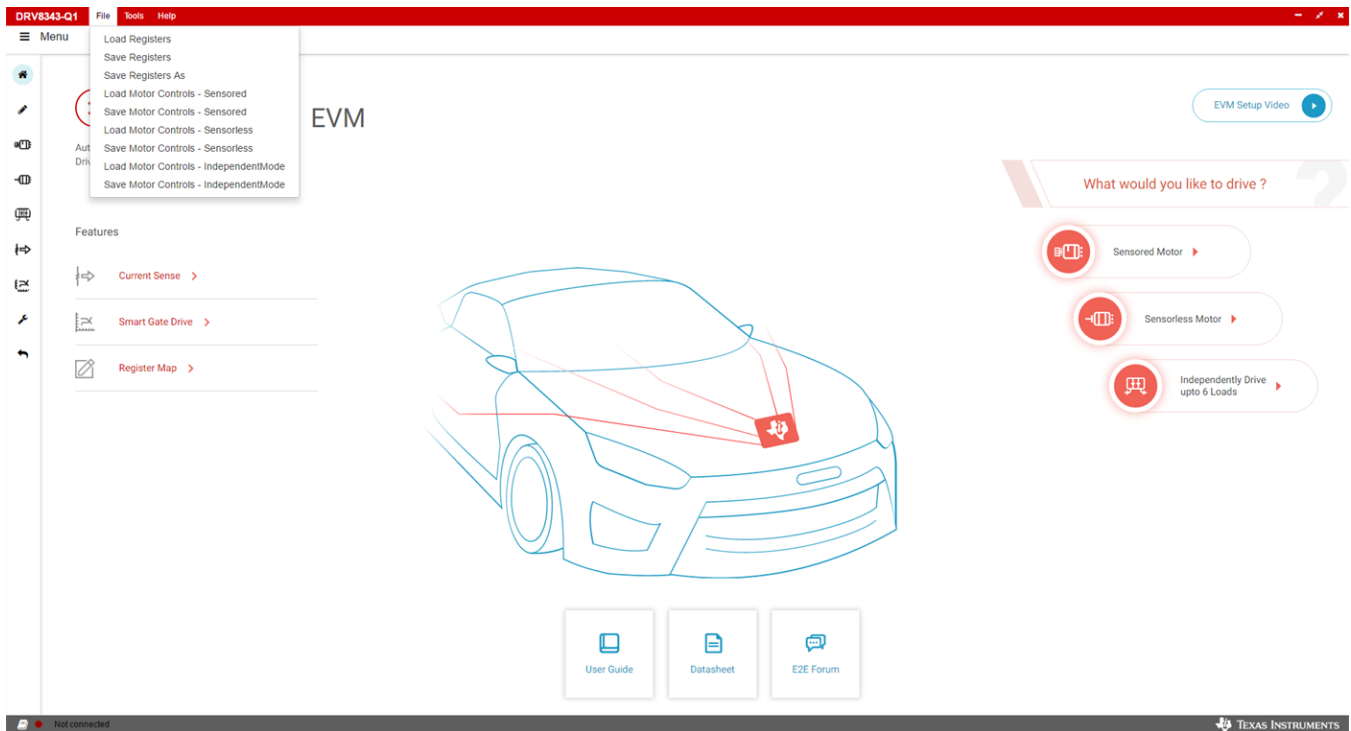

Figure 13. DRV8343x-Q1EVM GUI (File Toolbar Menu)
- **File**—Different options in this menu are available to load and save from and to a JSON file respectively: the register values on the register page, sensed motor control settings, sensorless motor control settings, and independent mode motor control settings as shown in Figure 13.